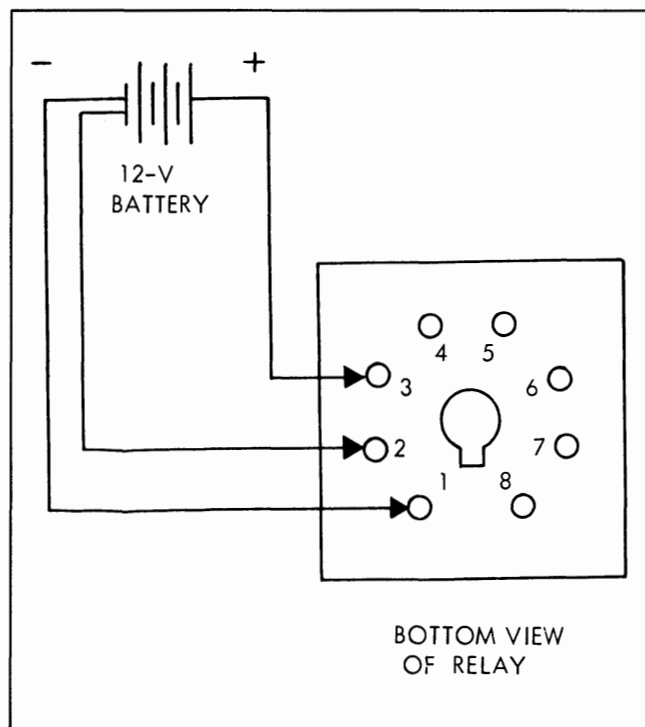

Fig. 12-9 Relay Non-Pull-In Check
1. Connect pins 1 and 2 to the negative terminal of a 12 volt battery. See Fig. 12-9.